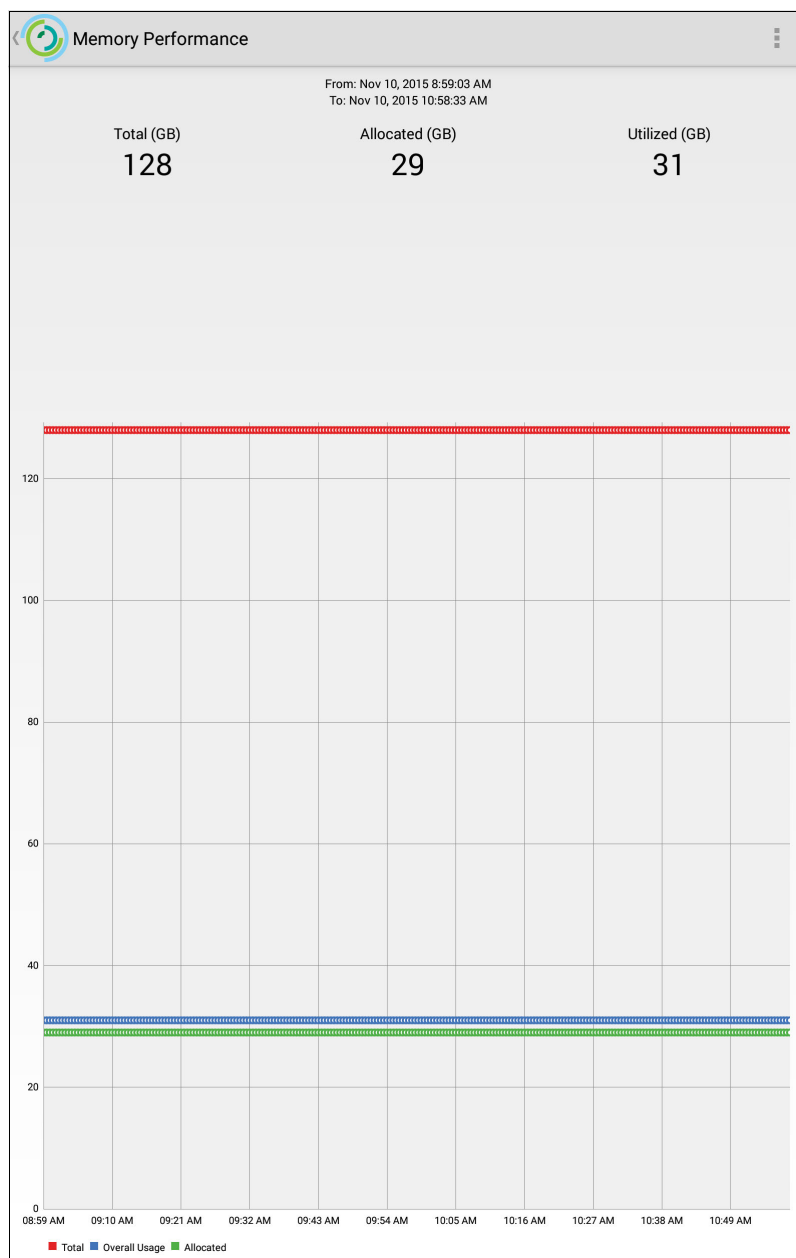

Figure A-12 Memory Performance screen
- ▶ Memory Performance (Figure A-12 on page 562)